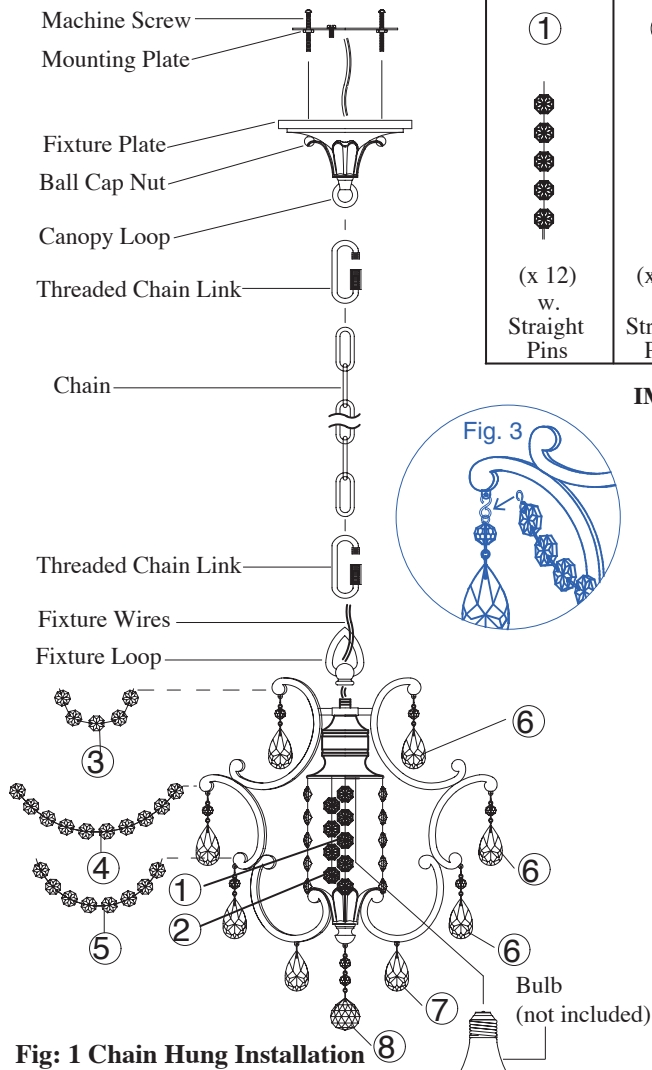

Fig: 1 Chain Hung Installation
- F. Hang crystal drops (#6, 7, 8) as shown in fig. 1.
CHAIN HUNG INSTALLATION- Fig. 1: